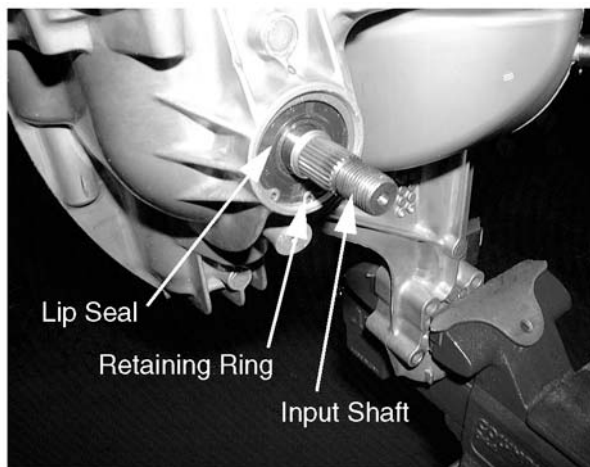

Figure 6-62.
24. Remove the retaining ring, lip seal, and spacer from the input shaft using a pair of retaining ring pliers and a flat blade screwdriver. See Figure 6-62.